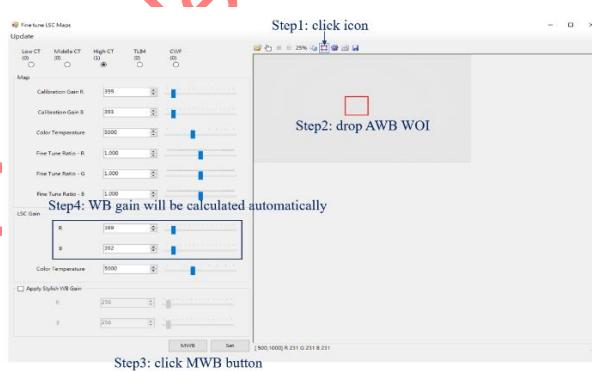
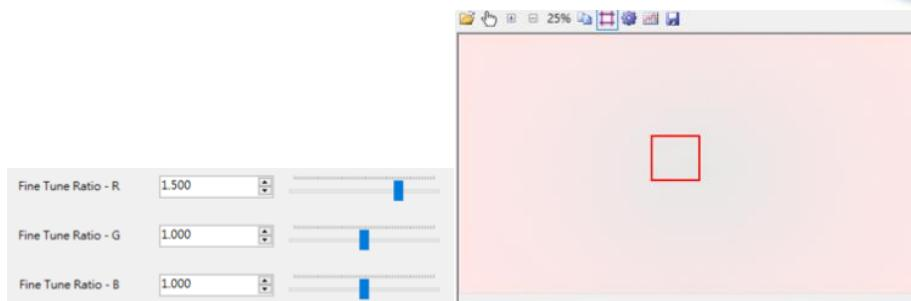

Fig 4.15 Manually calculate white balance gain SOP.
Fig 4.17 (Left) R, G and B channel table, (right) adjust R channel to get reddish result.
Step 3. After calibrating 5 CT shading tables, “Fine Tune” button next to calibration button will be shown. You could enter fine tune page to start fine tune. First to load the raw image and you could calibrate white balance gain by reference Fig 4.15 or manually input WB gain. Depends on Fig 4.16 interpolation ratio, fine tune R, G and B channel table (Fig 4.17) between interpolated color temperature. For example, to adjust R channel in the corresponding CT to get the reddish calibrated result (Fig 4.17).